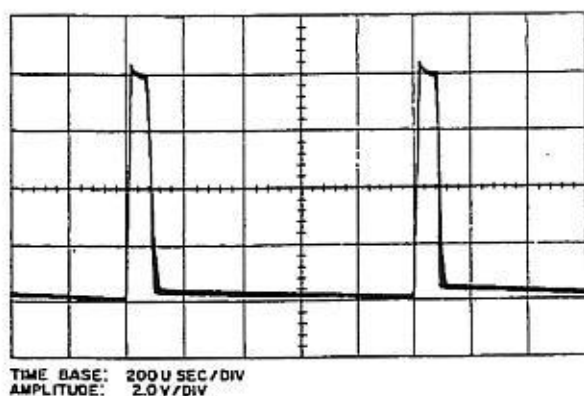

Figure 6.20 — Q13, Collector Waveform
n. Switch to CW mode and reconnect oscilloscope to collector of 1 kHz multivibrator stage Q13 (or bottom of R43). The observed waveform should resemble the one shown in figure 6.20.
e. Connect oscilloscope to the junction of R42 and the collector of Q13. Set R38 to the center of the range which results in a waveform with time between pulses equal to and amplitude close to those shown in figure 6.20.